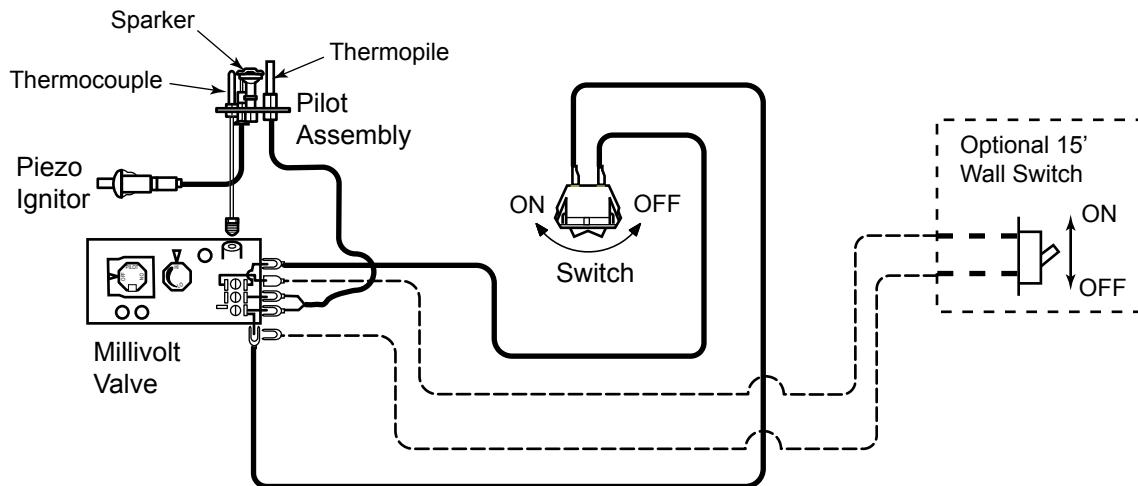

Figure 48 -
A remote wall switch and up to fifteen (15) feet of 18 Ga. wire may be used with this appliance. Attach the wall switch in a junction box at the desired location on the wall. *Figure 48*. Do not extend beyond the wall switch wire length provided.
Depress and turn knob to pilot position to keep burner off while maintaining the pilot light. *Figure 48*